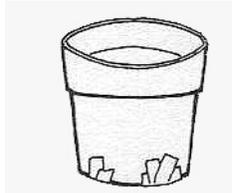

Figure 2.
1) Measure the volume of the pot. Do this by securely taping the holes at the bottom (place the tape on the outside of the pot - see Figure 2). Fill the pot with water to within about ½ inch of the brim (or wherever the soil line would be). Mark this line with a pencil. Carefully pour the water from the pot into the measuring cup (see Figure 3). The number of cups of water that the pot held is the "total volume" of the pot.